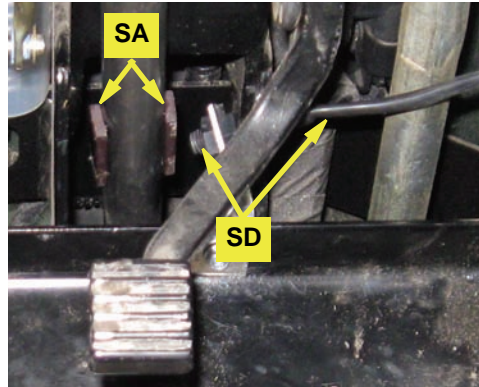

Figure 2: Attached magnets and installed sensor
- a. Mix epoxy **SB** as directed on the package then attach both magnets **SA** to the cleaned steering shaft 180° apart. Align the center of each magnet with the center of the sensor hole in the sensor bracket (Figure 2).
- b. Install the steering sensor **SD** in its bracket. Set the sensor tip 1/8" to 1/4" from the magnets (Figure 2). (You will connect SD to the ECU in the next section).